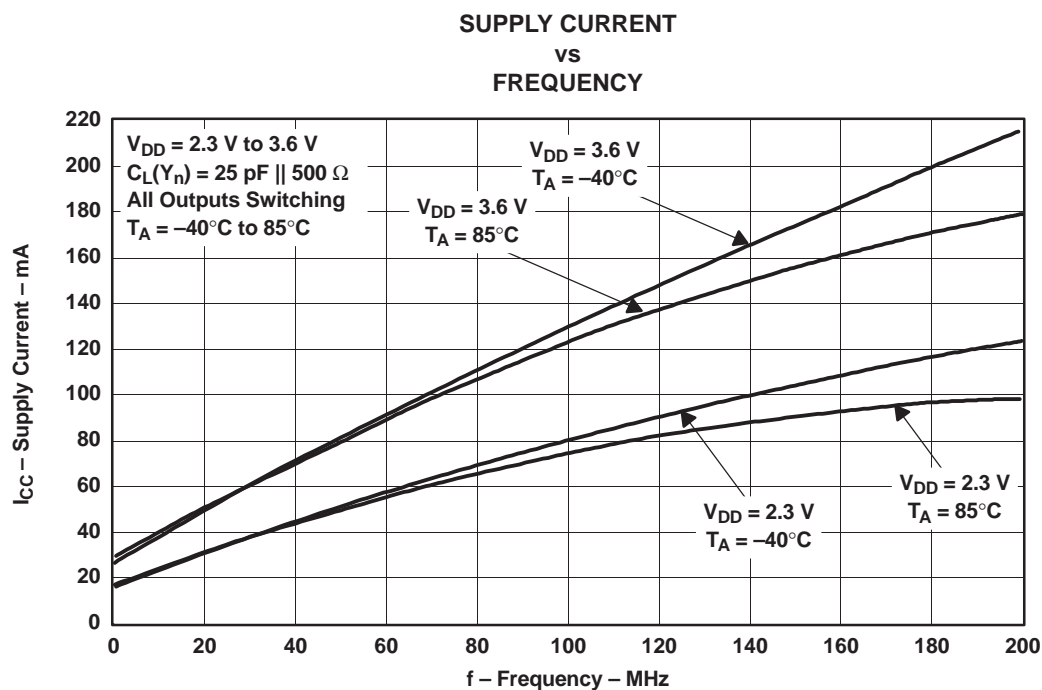

Figure 6.
(1) All typical values are at respective nominal V_{DD} .
(2) For I_{CC} over frequency, see Figure 6.